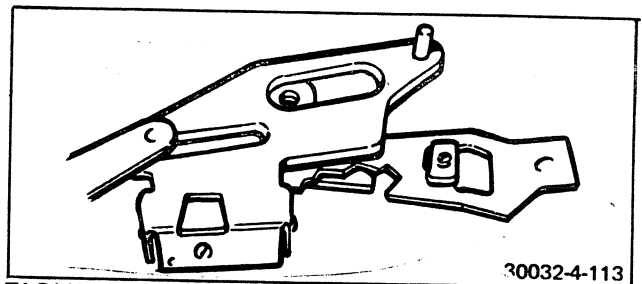

FIGURE 4-113 CAM FOLLOWER ASSEMBLY
- a. The cam follower assembly includes the interceptor which must reach under the pull-down bar of solenoid no. 2. Use tweezers and slide the interceptor under the bar. At the same time position the cam follower so that its slot is centered over the threaded hole in the mounting post (see Figure 4-113).